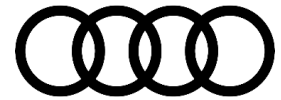

Figure 6. Body plug removed.
9. With the symptom confirmed, lower the center cover plate on the affected side. Remove the first body plug aft of the bolted connection for the transverse link (Figure 6).